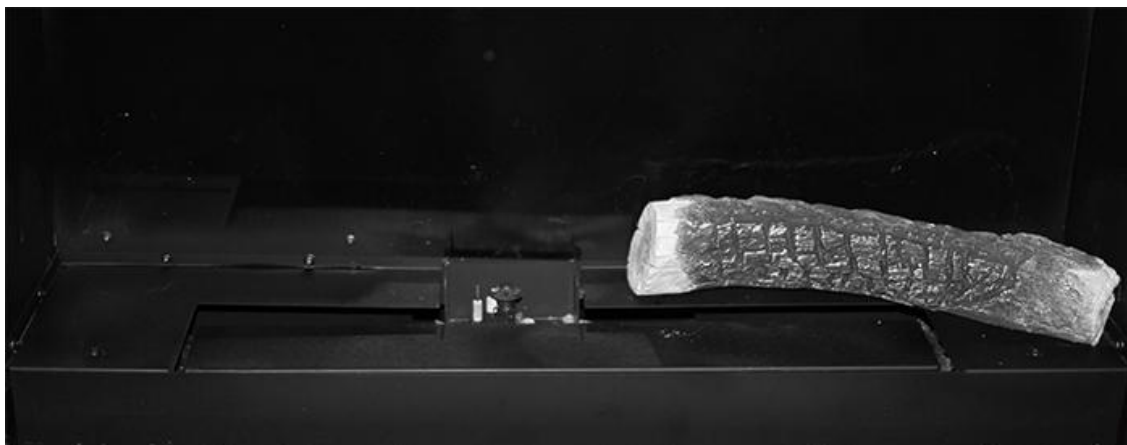

Figure 38 - Placing log #1
1. Place right side logs (#1 and #2) on the rear log support of the firebox according to *Figure 38* and *39*.